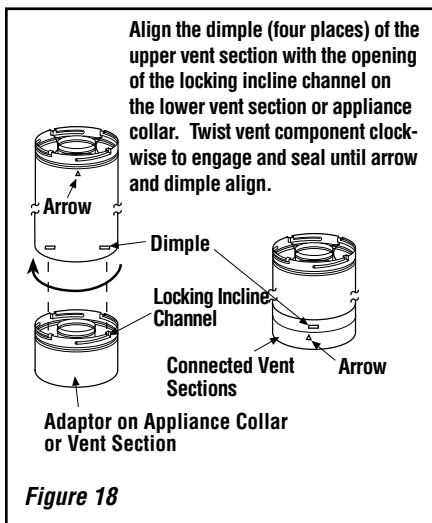

Figure 18
B. Attach adaptor (with probe) to appliance collar. Secure Vent® SV4.5 direct-vent system components are unitized concentric pipe components featuring positive twist lock connections (see *Figure 18*).
To attach a vent component to the adaptor on appliance collar, align the dimpled end over the adaptor collar, adjusting the radial alignment until the four locking dimples are aligned with the inlet of the four inclined channels on the collar (refer to *Figure 18*). Push the vent component against the collar until it fully engages, then twist the component clockwise, running the dimples down and along the incline channels until they seat at the end of the channels.
Push the vent component against the previous section until it fully engages, then twist the component clockwise running the dimples down and along the incline channels until they seat at the end of the channels. **This seating position is indicated by the alignment of the arrow and dimple as shown in *Figure 18*.**
F. Change vent direction to horizontal/inclined run. At transition from or to a horizontal/inclined run, install the SV4.5 E45 and SV4.5 E90 elbows in the same manner as the straight vent sections. The elbows feature a twist section to allow them to be routed about the center axis of their initial collar section to align with the required direction of the next vent run element. **Twist elbow sections in a clockwise direction only so as to avoid the possibility of unlocking any of the previously connected vent sections (see *Figures 18 and 20*).**
Secure Vent® SV4.5 direct-vent system components are unitized concentric pipe components featuring positive twist lock connection, (refer to **Figure 18 on Page 18**). All of the appliances covered in this document are fitted with collars having locking inclined channels. The dimpled end of the vent components fit over the appliance collar to create the positive twist lock connection.
To attach a vent component to the appliance collar, align the dimpled end over the collar, adjusting the radial alignment until the four locking dimples are aligned with the inlets of the four incline channels on the collar (refer to **Figure 18 on Page 18**).
Other vent sections may be added to the previously installed section in accordance with the requirements of the vent tables. To add another vent component to a length of vent run, align the dimpled end of the component over the inclined channel end of the previously installed section, adjusting the radial alignment until the four locking dimples are aligned with the inlets of the four incline channels of the previous section. Push the vent component against the previous section until it fully engages, then twist the component clockwise running the dimples down and along the incline channels until they seat at the end of the channels. **This seating position is indicated by the alignment of the arrow and dimple as shown in Figure 18 on Page 18.**
At transition from or to a horizontal/inclined run, install the SV4.5E45 and SV4.5E90 elbows in the same manner as the straight vent sections. The elbows feature a twist section to allow them to be routed about the center axis of their initial collar section to align with the required direction of the next vent run element. **Twist elbow sections in a clockwise direction only so as to avoid the possibility of unlocking any of the previously connected vent sections (see Figures 18 and 20 on Page 18).**